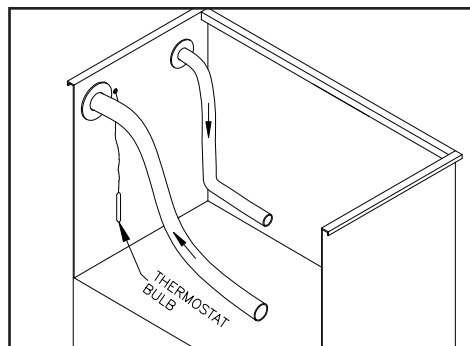

Fig. 12a: Intake (L) and return (R) hoses.
3) Trim the return hose to hang approximately 4-in. above reservoir bottom (**figure 12a**).
For best results, keep the open ends of intake and return hoses as far away from each other as possible (figures 12a & 12b).